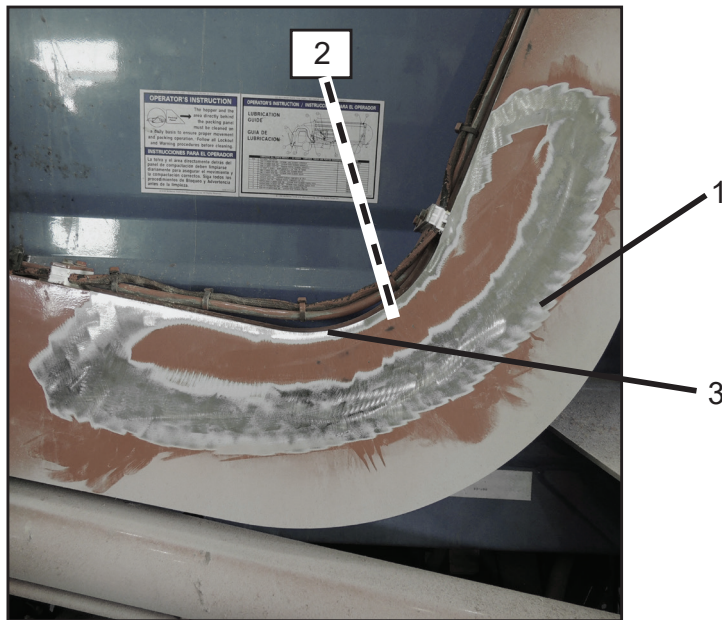

Figure 4
8. Remove the doubler plate, and use an angle grinder to grind, clean, smooth, and prep the area for welding. Include the face of the arm, plus an extra inch or so (Figure 4, Item 1), the backside upper lip of the arm (Figure 4, Item 2), and the up facing edge of the arm (Figure 4, Item 3).